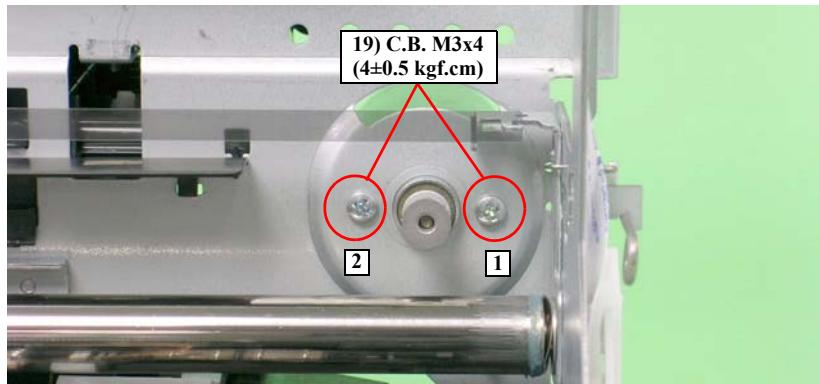

Figure 3-144. Removing the CR Motor
- Tighten the screws in the order shown in Figure 3-144